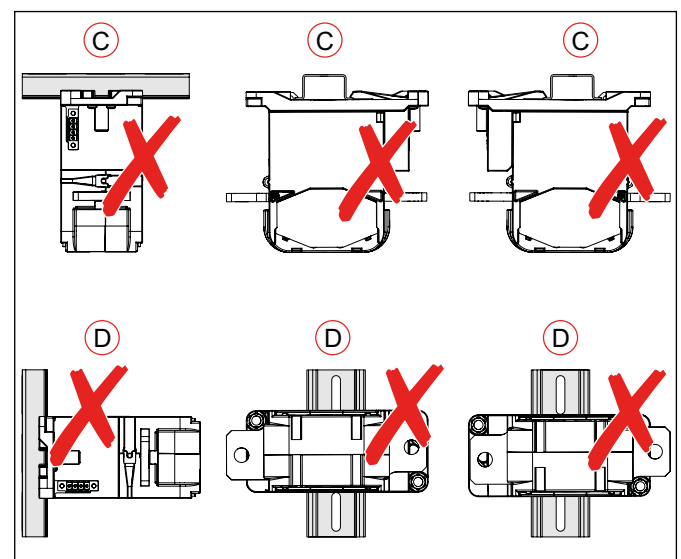

Fig. 4: Examples of non-permissible mounting orientations (top-hat rail mounting)
Not permissible are mounting orientations hanging, overhead with top-hat rail on top (C) as well as with vertically arranged top-hat rail (D), as shown for example in Fig. 4.